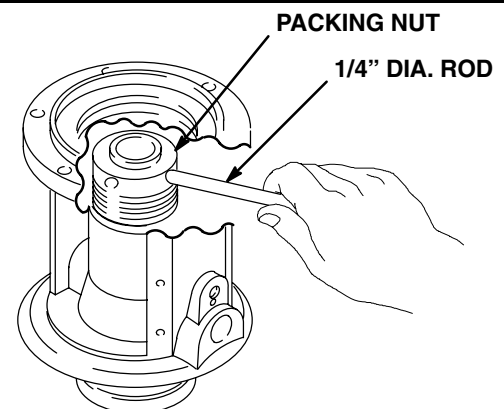

Fig. 5
4. Use a 1/4" diameter rod, spanner wrench, or torque wrench to tighten the packing nut. First loosen the nut, then tighten snugly, and finally tighten an additional 1/2 turn (20–25 ft-lbs). See Fig. 5.